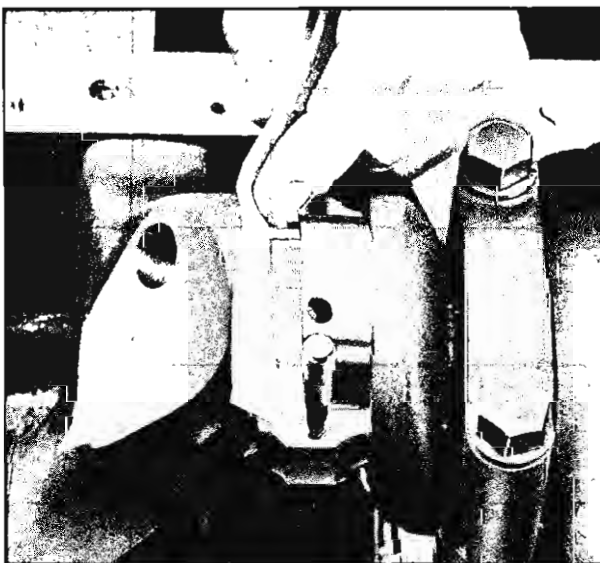

Fig. 40—Measuring Plastigage
5. Remove the bearing cap and without removing the Plastigage, check its width at the widest point with the Plastigage scale (fig. 40).